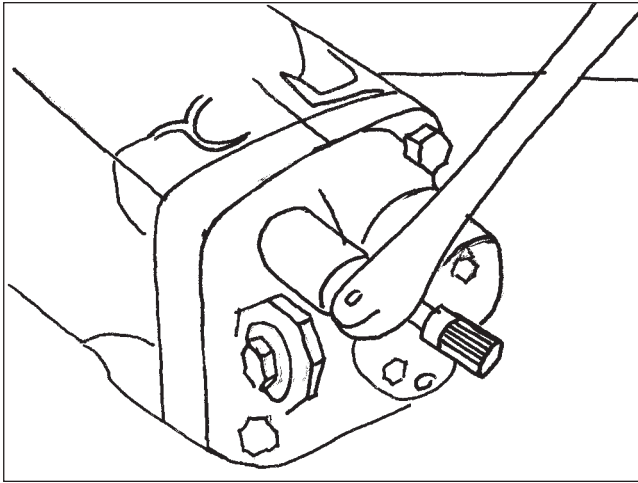

Figure 17
4. Install the bearing cap cover to the gear, insuring the plunger hole in the cover fits over the plunger. Torque to 52 ft. lbs. (Figure 17).